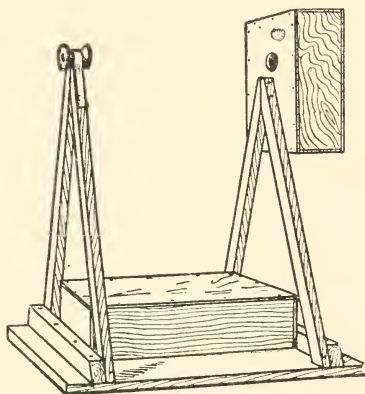

FIG. 149. — Standard for the Ferris Wheel.
**The Standard** for supporting the wheel (Fig. 149)
### The Station Platform (Fig. 149).